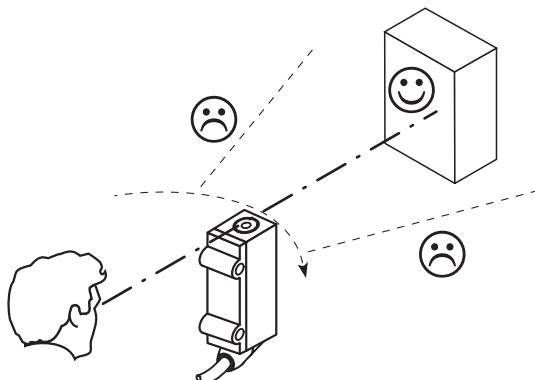

Figure 2: Sensor alignment
- ① Sensing range on white, 90% remission
- ② Object with 6 % ... 90 % remission (based on standard white DIN 5033)
3. Select the position so that the infrared light (not visible) hits the center of the object. The correct alignment can only be detected via the LED indicators (yellow indicator LED lights up when the object is detected) or with the help of an infrared conversion screen (see the SICK range of accessories). see figure 2, page 11